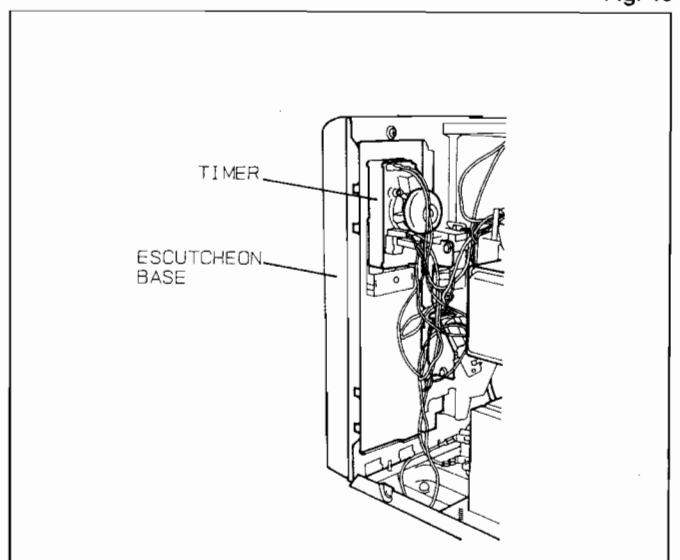

Fig. 16
- (A) Disconnect all lead wires from timer. (Fig. 16)